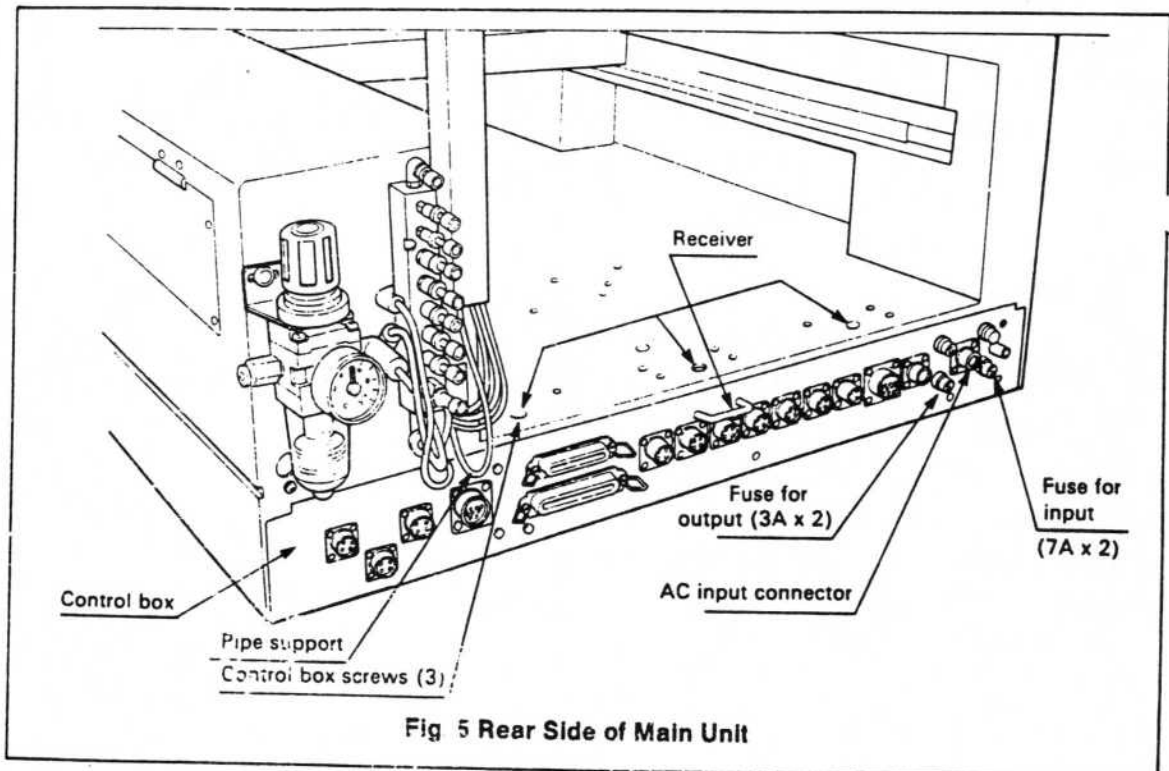

Fig 5 Rear Side of Main Unit
- 4) Remove the control box screws from the rear panel of the main unit (see Figure 5), and take off the control box. Place a block under the control box to balance it.